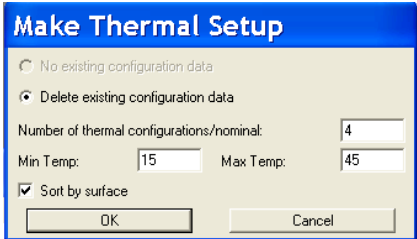

Figure 7: MCE window defining 4 temperature configurations
- 7. Use Editors->Multi-configuration Editor->Tools->Make Thermal to define the analysis temperatures. To define configuration temperatures of 15, 25, 35, 45, mimic the choices shown in Figure 7; the nominal system temperature of 20° C also appears as a configuration in the MCE. Checking “sort by surface” in Figure 7 ensures that the MCE editor arranges the data as shown in Figure 8: by surface, not operand.